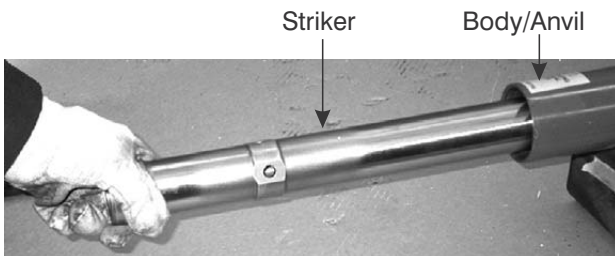

Figure 9-48. Insert Striker into Body/Anvil.
5. Before installing the Striker (2) into the Body/Anvil (1). Coat the external surface and internal bore of the Striker with hydraulic fluid.
6. Refer to Figure 9-48 and slide the Striker (2) into the Body/Anvil (1). The back end of the Striker should be about 6 in. to 8 in. past the threads of the Body/Anvil.